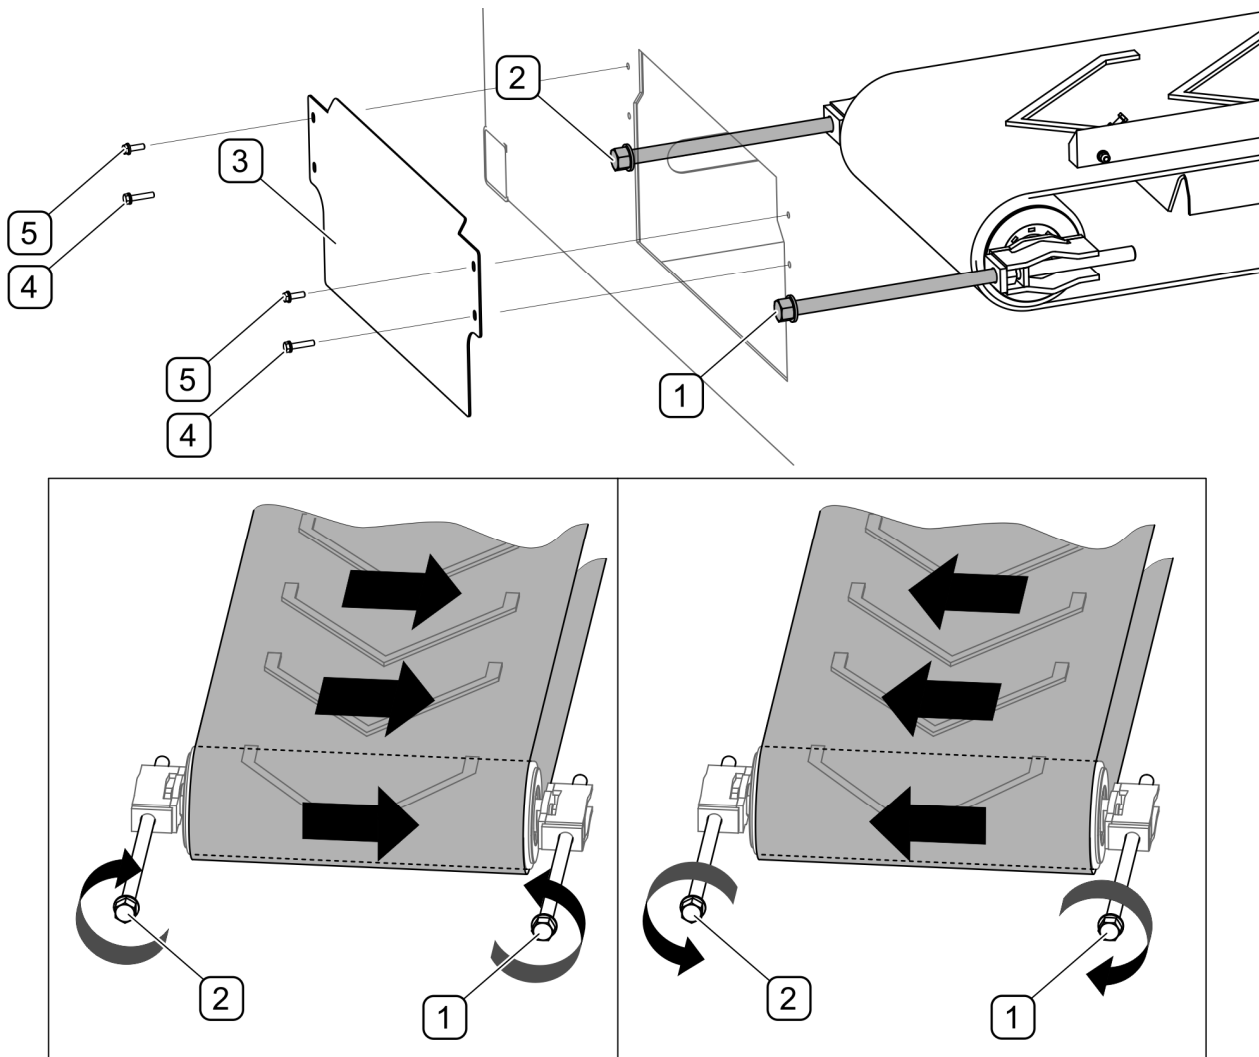

FIG. 5.8 Adjustment of tightening roller
Before starting conveyor belt adjustment (FIG. 5.8), unscrew bolts (4) and (5) and remove cover (3). Connect the machine to the mains, activate "UNLOADING" function in "COUNTERS" menu on the control panel. Turn on electric motor using switch on the drive wheel column. A detailed description can be found in section 4.9 UNLOADING.
Conveyor belt is adjusted during conveyor operation by means of tensioning bolts (1) and (2) located on the front wall of the tank (FIG. 5.8). Depending on shifting of conveyor belt (FIG. 5.8), choose proper rotation direction of tensioning bolts (1) and (2). During the adjustment, make one turn of each bolt and wait for some time to see the effect of the adjustment. Repeat the activity until moving conveyor belt is positioned in the middle of the conveyor roller.
Conveyor belt can be tightened when the conveyor drive is switched off. Conveyor belt is tightened by means of bolts (1) and (2) located on the front wall of the tank (FIG. 5.8). Turn both bolts (1) and (2) clockwise using force of about 15 Nm. To avoid shifting the belt sideways to the edge of the roller, turn both bolts by the same number of rotations.